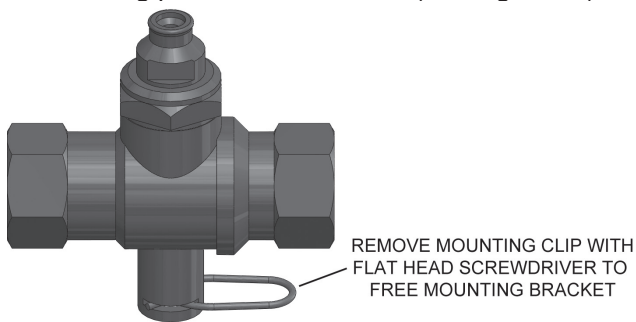

Figure 22.
3. Remove the front cover (D) of the solar station.
4. Remove the retainer clips behind the isolation ball valves (J, Q) with a flat head screw driver to free the mounting plate from the station (see Figure 22).